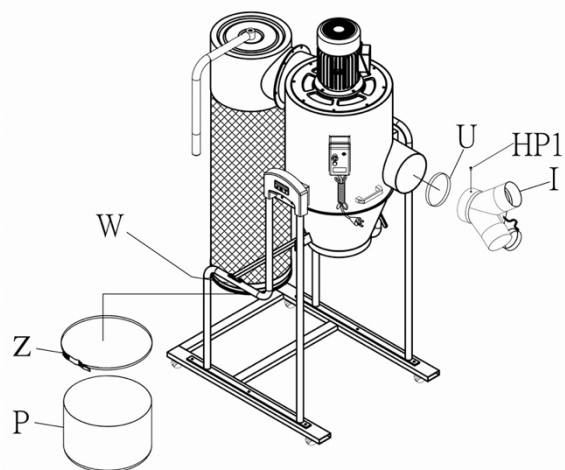

Figure 10
11. Apply foam tape (U) around inlet port near edge. See Figure 10. The foam tape should completely encircle the port.
12. Install inlet adaptor (I) on main housing and secure with pan head screw (HP1).
13. Apply foam tape (W) just above lower lip of canister filter. The foam tape should completely encircle the canister filter.
14. Install collection bag (P) to bottom of canister filter and secure with steel bag clamp (Z). Note: Masking tape can be used to hold bag in position on canister until clamp is secured.